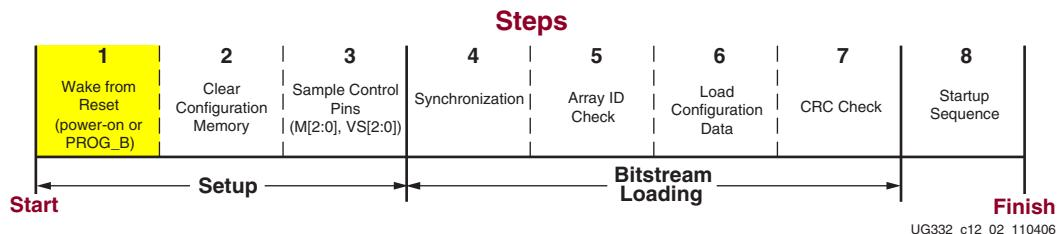

Figure 12-2: **FPGA Wake from Reset**
1. Hold the PROG\\_B pin Low, which holds the FPGA in reset, Step 1 shown in Figure 12-2, page 242.